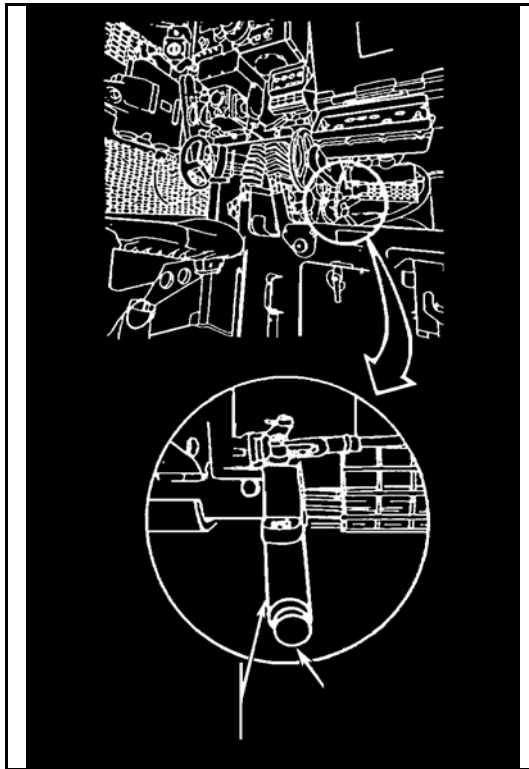

Figure 3. Gun elevation drive select lever.
(1) Press and hold the push button.
(2) Move the select lever left to the MANUAL position and release the push button.
b. Move the gun elevation drive select lever to the POWER position (Figure 3, page 3-206).
(2) Move the gun select lever to the right and release the push button.